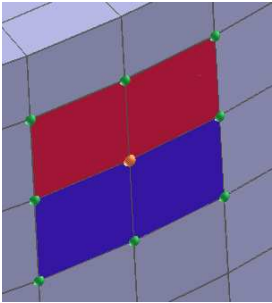
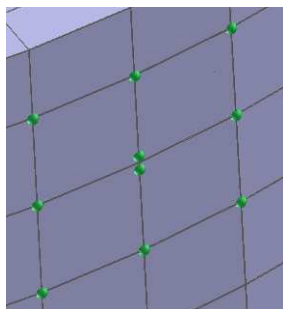

Figure 5.47: Before splitting a selected node between Group 1 and Group 2.
Figure 5.48: After splitting a selected node between Group 1 and Group 2.
- To split only few selected nodes (not all shared nodes) between elements belonging to Group 1 and Group 2, first select nodes by left-clicking on them while holding down the *shift-key*, then click on **Split Pn Nodes between Groups (Split Sigma Nodes between Groups)**. Only selected nodes are split between Group 1 and Group 2. See Figure 5.47 and Figure 5.48.